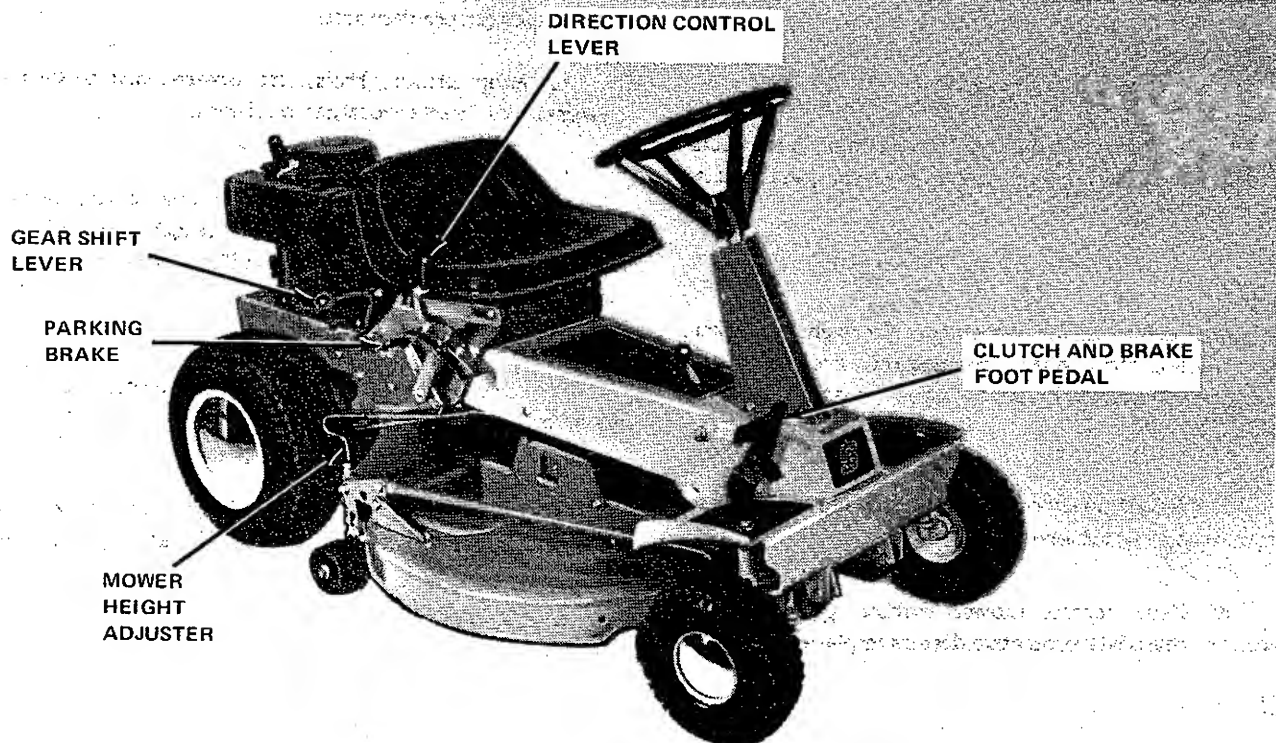
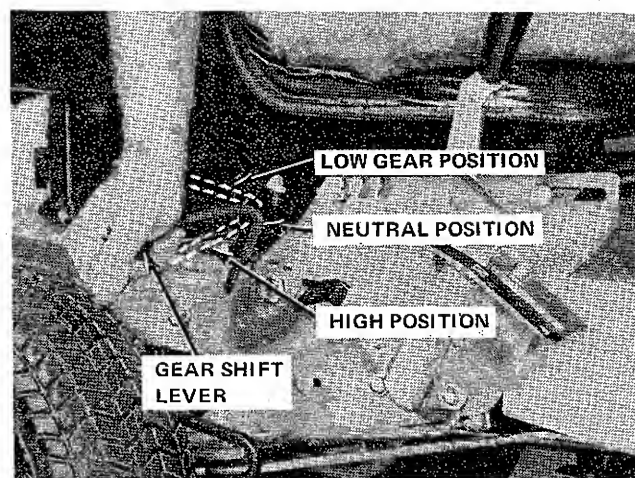

Figure 3-2. Right Side Operation Controls
Figure 3-9. Gear Shift Lever Positioning
1. Clutch and Brake Foot Pedal (Figure 3-2). Push pedal down to declutch and apply brake simultaneously. Vehicle may be stopped by depressing clutch pedal or by retaining direction control lever to NEUTRAL without depressing clutch pedal.
3. Mower Height Adjuster (Figure 3-2). The height adjusting handle raises and lowers the mower at both front and rear. Turn handle CLOCKWISE to raise, COUNTER-CLOCKWISE to lower.
4. Gear Shift Lever (Figure 3-2). Depress clutch and brake foot pedal and place the shift lever in the desired position. The upper position places the transmission in LOW gear, the middle position in NEUTRAL, and the lower position in HIGH gear (Figure 3-9). Gear shift lever must be in NEUTRAL when starting.
5. Direction Control Lever (Figure 3-2). The direction control lever controls the direction of travel. To position lever in either FORWARD, NEUTRAL, OR REVERSE, it is necessary to pull handle inward from notch and then move either forward or rearward as desired.
7. Parking Brake (Figure 3-2). To apply parking brake, push lever down.
- A. Place controls (Figures 3-2 and 3-3) in following positions:
2. Gear Shift Lever-NEUTRAL (Figure 3-9).
C. Have the front wheels centered straight ahead and hold the steering wheel with one hand. Move the gear shift lever to HI or LO as desired. (Figure 3-9.) Remember to push downward for HIGH gear or lift upward for LOW gear on the shift lever.